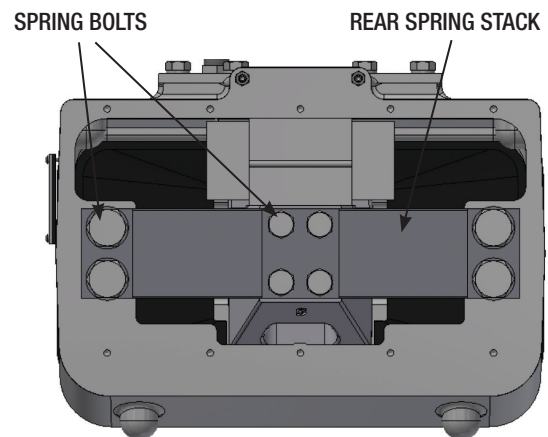

Figure 13
2. Remove rear spring bolts, spring clamps, spacers and springs (See **Figure 13**).